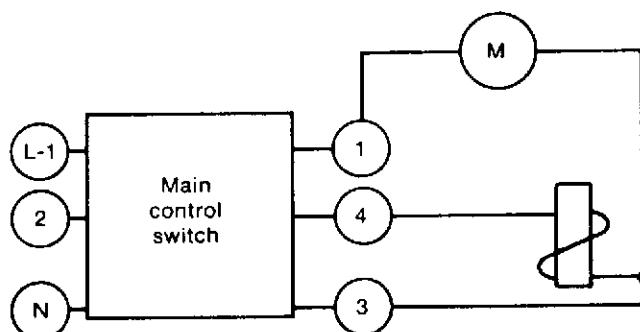

FIGURE 1 Existing wiring of the *internal* dowser of a KODAK PAGEANT 250A Projector
1. Disconnect the wire from terminal 4 of the main control switch (Figure 1).